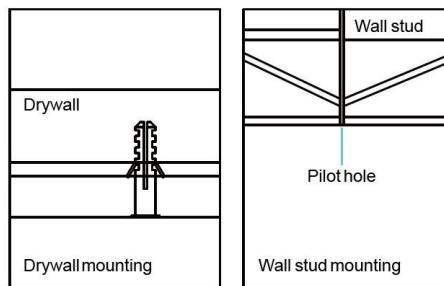

Figure 9
- If the mounting holes go through wall studs, drill four small pilot holes using a 5/32" drill bit (not included) for the wood screws (CC). Install the four wood screws (CC) into the mounting surface but leave about a 3/8" gap between the screw head and mounting surface. (Figure 9)